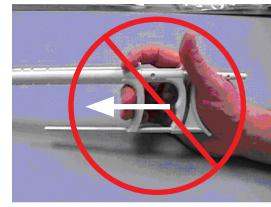

Figure 6
- g) Please note that a modification of your thumb to a position of that in Figure 6 is contra indicated and should not be used.